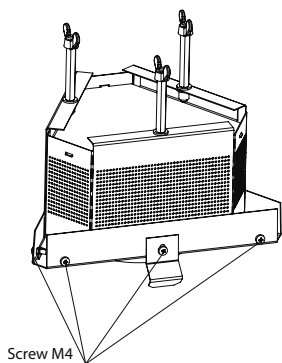

Fig.11 - Installation of screws on the afterburner
- Attach the screws to the afterburner for installation in the slots of the upper profiles (Fig. 11)